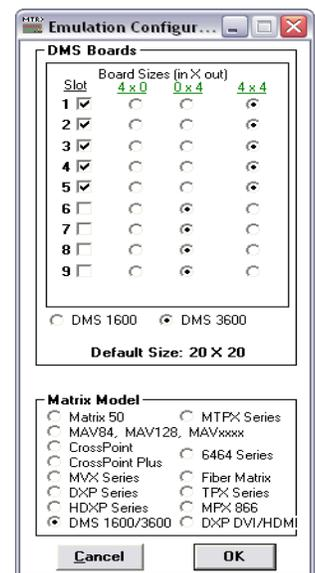

Figure 54. Emulation Mode Configuration
5. Select **DMS** as the Matrix Model (see figure 54) and either **DMS 1600/3600** or **DMS 2000/3200** as the **Default Size**. Check the boards that are installed; and select the type, input/output (**4x4**), input only (**4x0**), or output only (**0x4**), for each board.